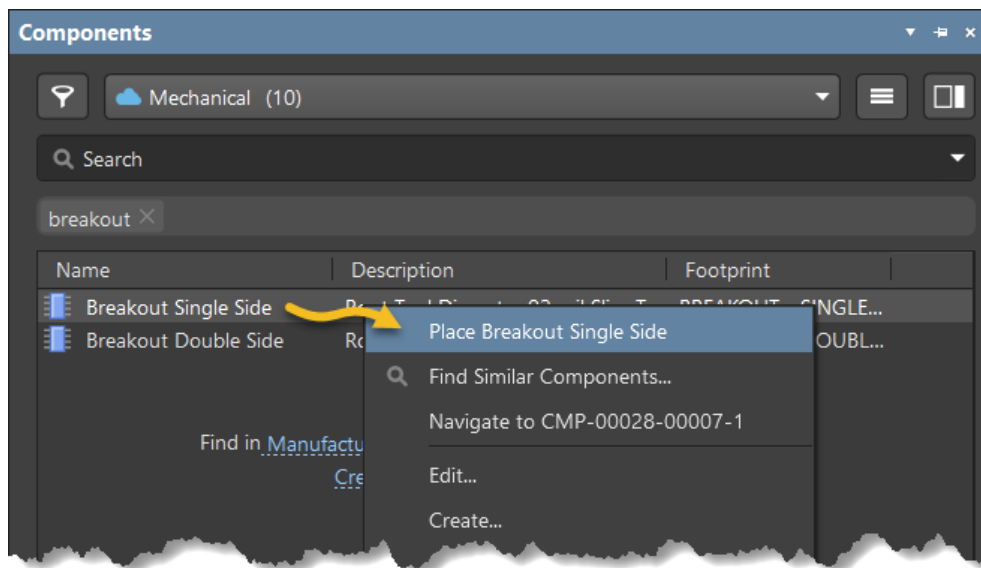

Figure 21. Placing the breakout footprint
47. Right-click on the `BREAKOUT SINGLE SIDE` footprint and select **Place**, Figure 21.